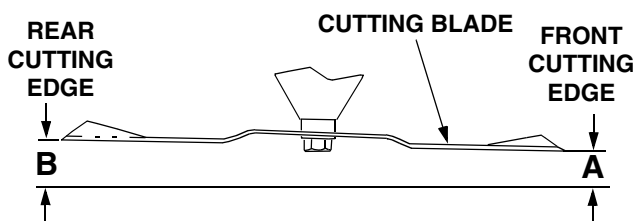

Figure 36
- Refer to Figure 36. Measure and record the distance from the front cutting edge to the ground (measurement A), and from the rear cutting edge to the ground (measurement B), for the two outer blades. The front edge measurement (A) of each blade should be 1/8 to 1/4 inch lower than its back edge measurement (B). If the measurements are not within this range, adjustment of the front lift rod is required.